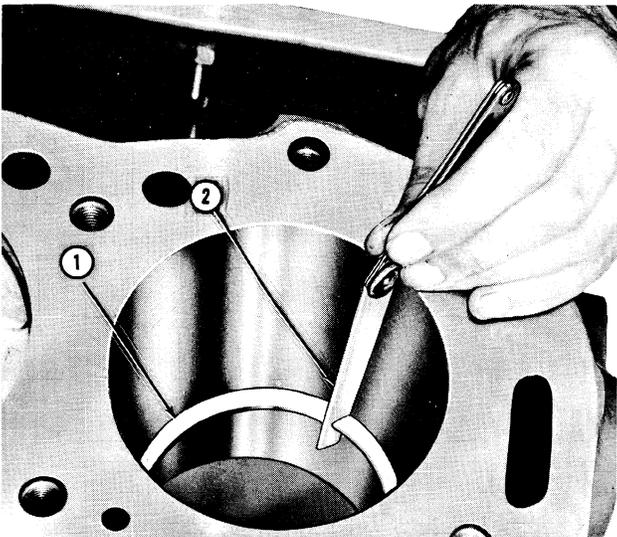

Figure 45
2. Check the gap between the ends of the ring with a feeler gauge, Figure 45. The ring gap should be as specified on page 66. It is important that all rings have at least the minimum gap clearance to provide for the expansion that may occur when the engine warms up to operating temperatures; otherwise, the ring ends may butt together and cause scuffing, scoring, or ring breakage.